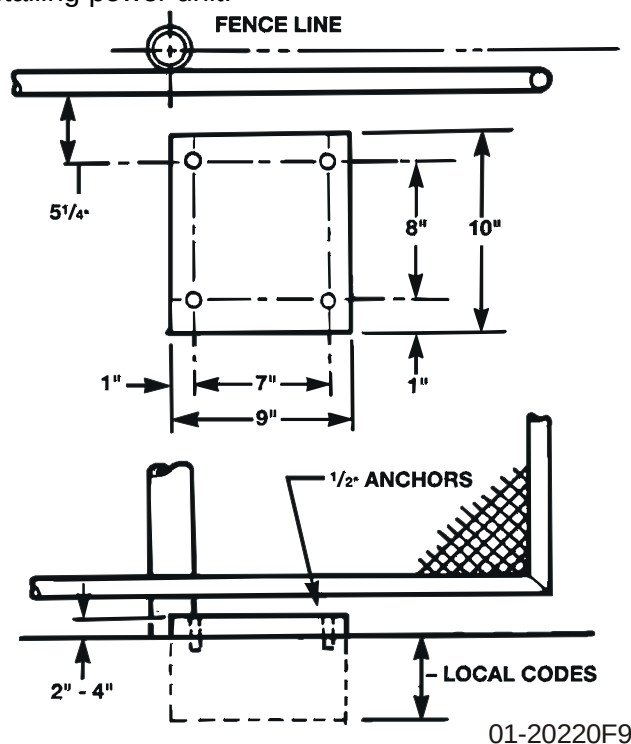
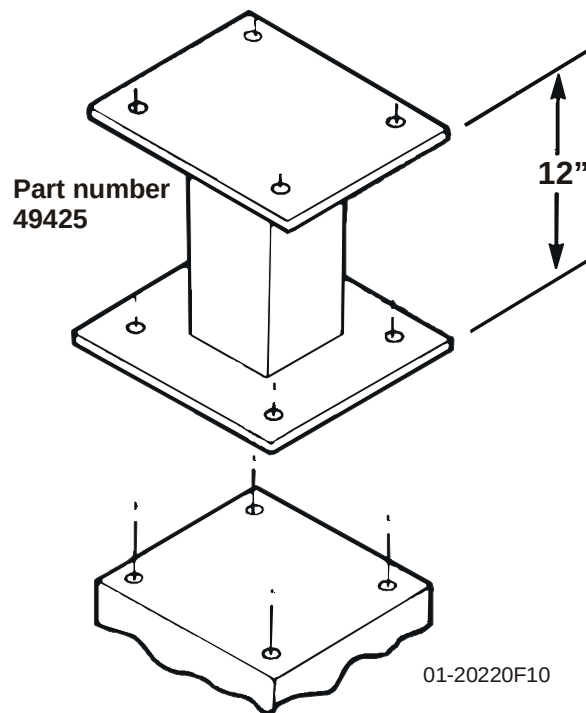

Figure 7: Typical Mounting
Figure 8: Pedestal Post (Optional)
- 1 Layout concrete pad as detailed. *See Figure 7.*
- 4 Locate four (4) $\frac{1}{2}$ " threaded anchors (not supplied) as detailed. **IMPORTANT:** Anchors must be positioned accurately and secure in concrete.
See Figure 8.
Figure 7 and Figure 8 display two possible ways of mounting the unit; there are others which you may prefer. **IMPORTANT:** It is extremely important that you double check the distance from the mounting leg to the lowest chain point.